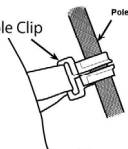

Figure 3
5. Between the ends of the pole sleeves and the eyelets in the webbing there are pole clips, these should now be attached to the poles. (See figure 3).